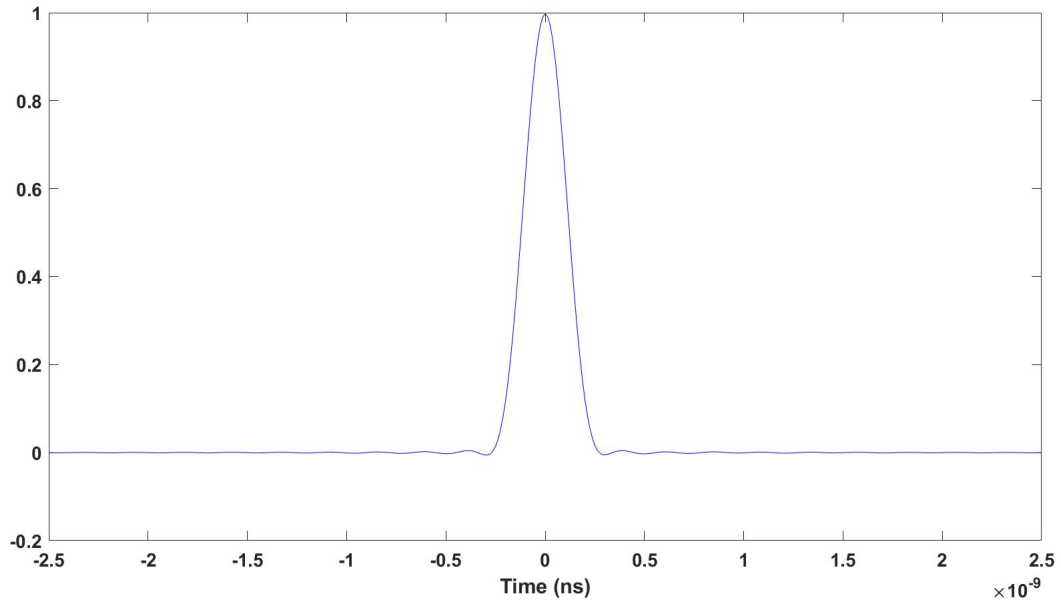

Figure 2: Calibration completed
- A pulse is wanted to be seen, so click 'Cal', then click 'Calibration Wizard', and select the properties in order to what it is wanted to be measured. In this case, it has been selected only one male port. Once the calibration is finished the next figure has to be seen: Figure 2.